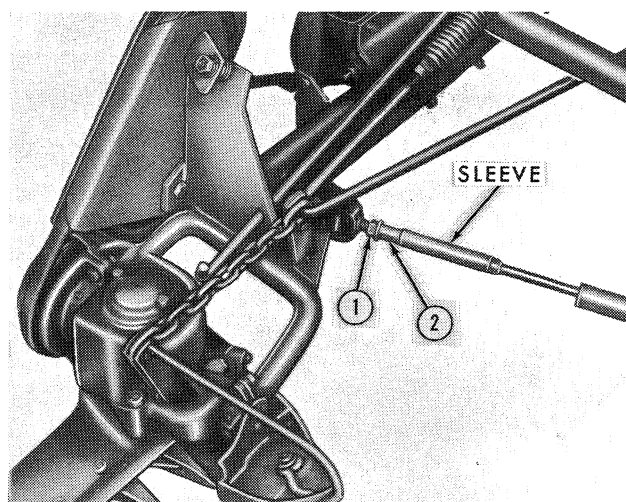

Figure 16
2. Loosen the jam nut (1), Figure 16.
3. Turn the sleeve, as required, with a pipe wrench at (2).